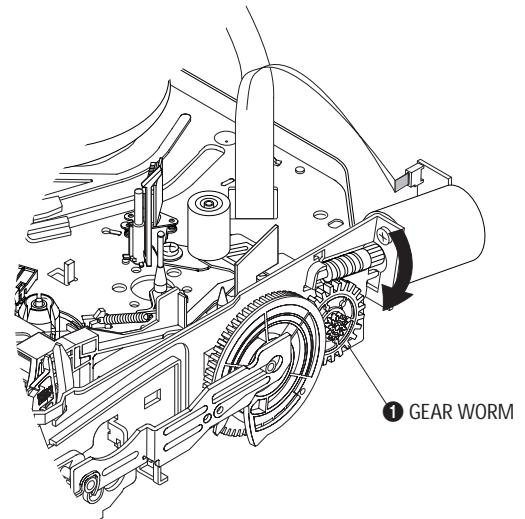

Fig. 5-42
- 3) Rotate Gear Worm ① clockwise using screw driver again up to the state of eject mode and then pick out the tape.(Refer to Fig.5-42)